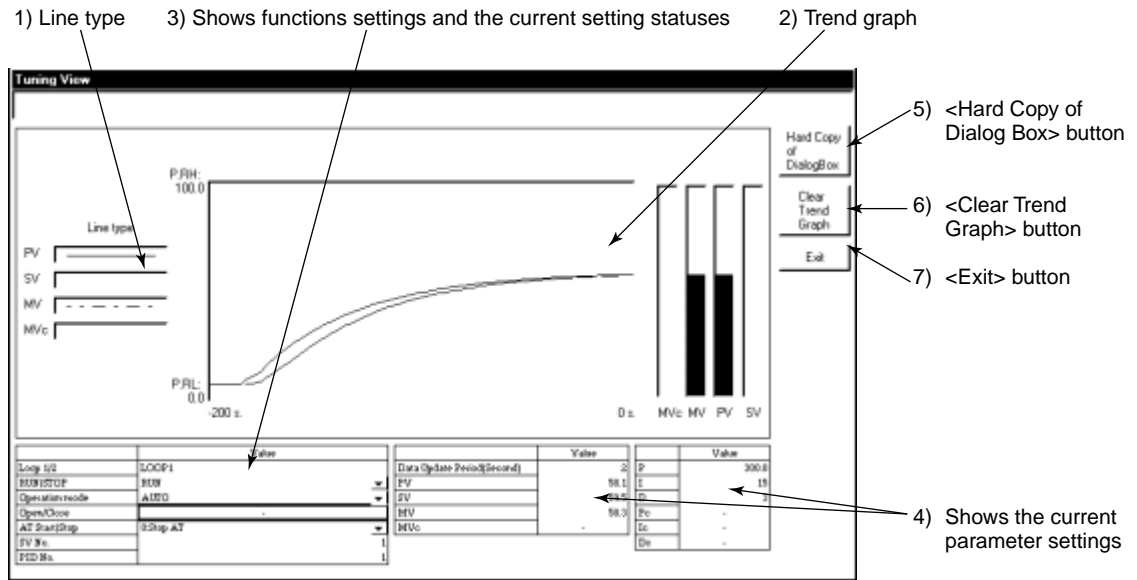

Figure 8.1.2 [Tuning View] Dialog Box
- (2) In the <Serial Port> drop-down list box, select a communication port of the personal computer.
- (3) Click the <Front Terminal> option button.
- (4) After connecting the equipment, click the <Execute> button.
- (5) The [Tuning View] dialog box (Figure 8.1.2) appears.
- (5) After connecting the equipment, click the <Execute> button. The [Tuning View] dialog box (Figure 8.1.2) appears. Adjust the PID parameters while monitoring the US1000 controller's PV, SV, and MV in a trend graph.
- (6) When you have finished the adjustment, click the <Exit> button. The LL1100 tool message appears.
- (7) Click the <Upload from US1000 Controller> button to upload parameters from the US1000 controller.
- (8) Save the uploaded parameters in a disk, or print them out.
Figure 8.1.2 for details of the [Tuning View] dialog box;
- (1) Set the US1000 controller in RUN status and in AUTO mode (for cascade control, set the secondary loop into CAS mode).
- (2) In the <AT Start/Stop> text box within the [Tuning View] dialog box (Figure 8.1.2), set the auto-tuning (AT1 to AT9) you want to execute.
- (3) When auto-tuning is complete, “0” is displayed in the <AT Start/Stop> text box.